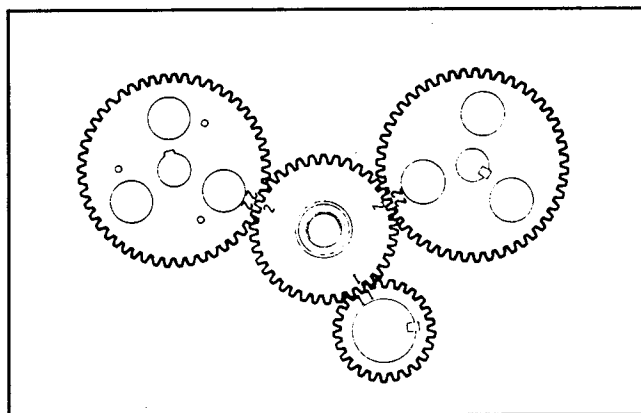

Figure 92
9. With the crankshaft set to No. 1 cylinder TDC, install the idle gear so the timing marks on all the gears are in alignment (Fig. 92).